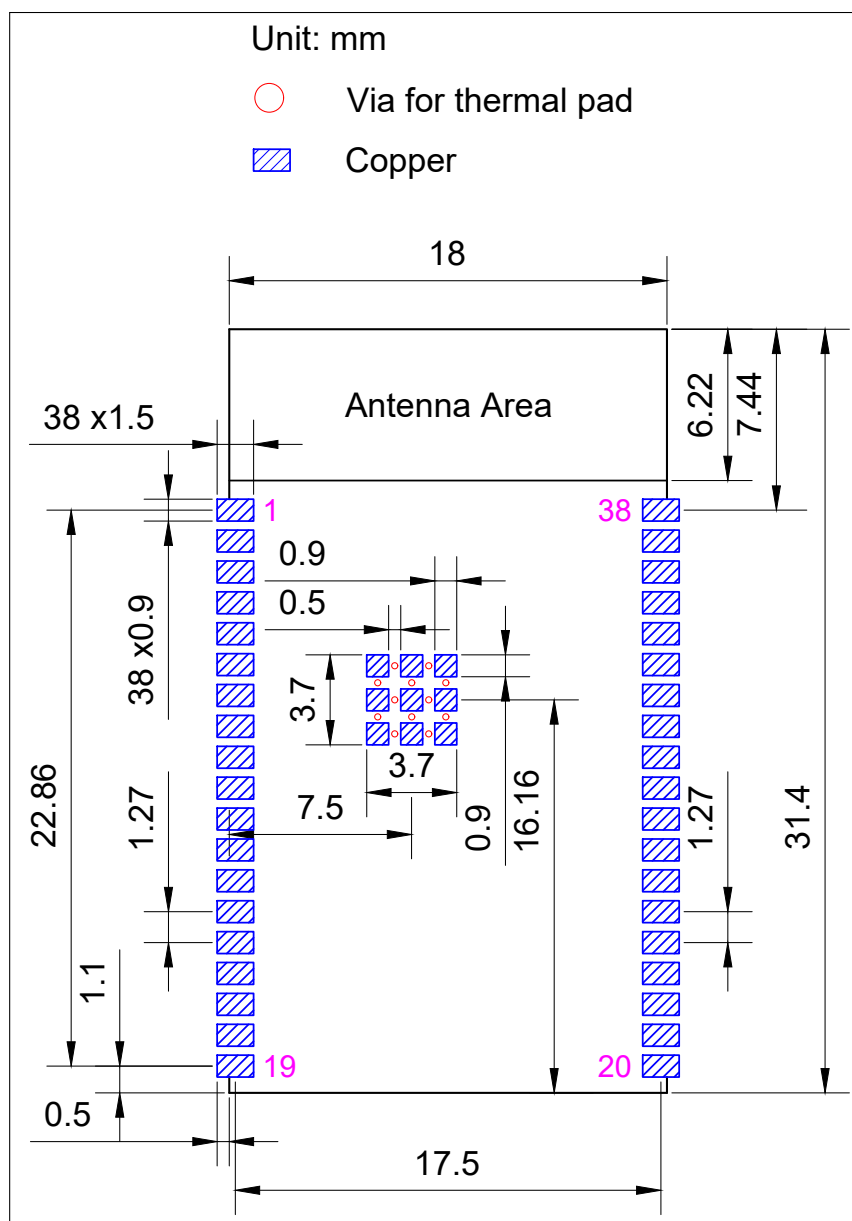

Figure 15: Recommended PCB Land Pattern
- Source files of recommended PCB land patterns to measure dimensions not covered in Figure 15. You can view the source files for ESP32-WROVER-E and ESP32-WROVER-IE with Autodesk Viewer.